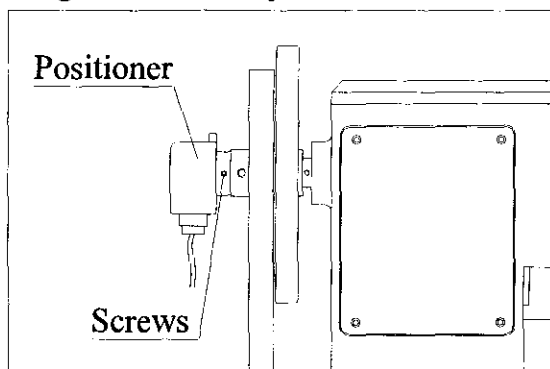

Fig.9
4.4 Adjustment of stopping position (Fig.9)